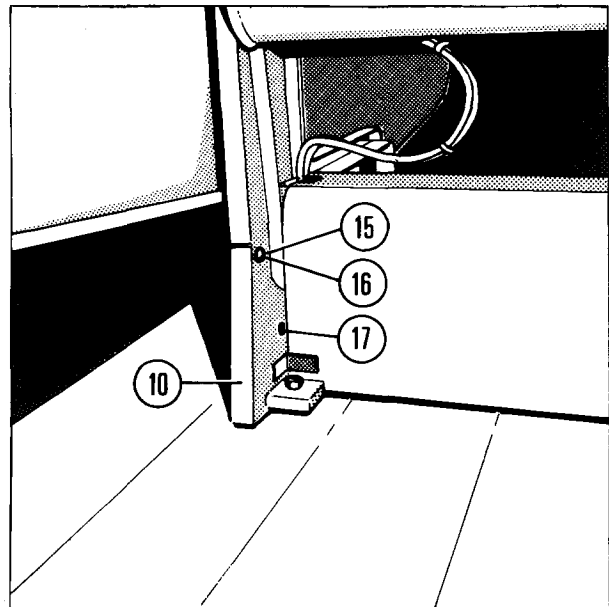

Fig. 13
- Remove the end switches with housing (Fig. 13/item 10) on both sides of the table base, by removing the snap ring (item 15), taking off the washer and pull out the bolt (item 16). Turn out the flat head screw (item 17).